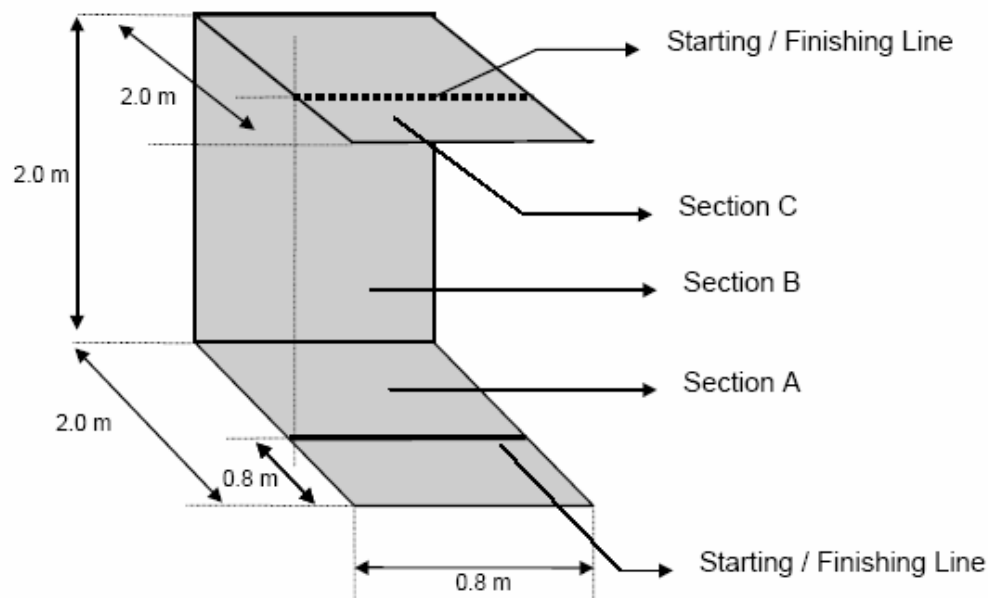

Figure 1: The wall for the wall-climbing robot race
- 2.1 The wall is shown in Figure 1. It consists of three sections: a two metres long horizontal section (section A) on the ground followed by a two metres high vertical section (section B) followed by a two metres long horizontal section (section C) at the top, with each section at least 0.8 metre wide. The following tolerance will applied:
The wall will be deemed to have satisfied criteria (a) and (b) above and be considered fit for use if each of the two distances between diagonally opposite corners (using the side view in Figure 1) lies in the range 2733 mm to 2847 mm.
- 2.4 The supporting structure for the wall will have provision for two safety cables to be attached to the robot so that both cables can be used simultaneously during the race (not shown in Figure 1.)